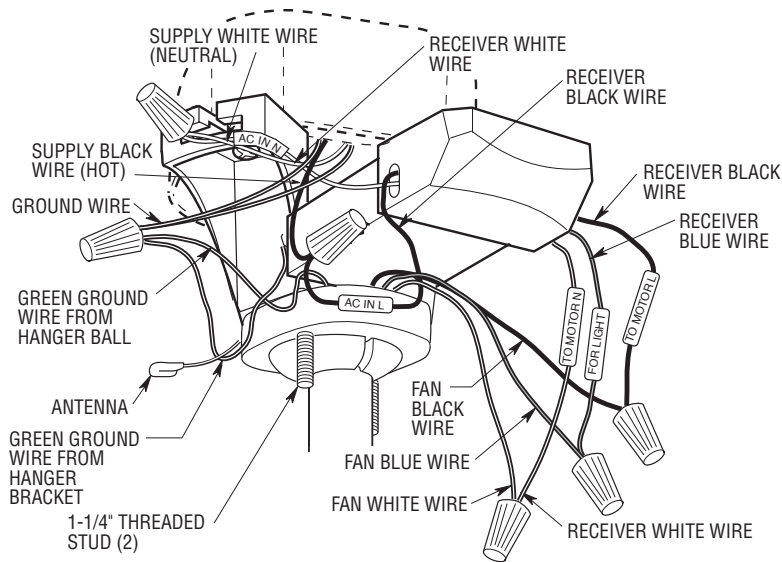

Figure 16
2. Position the supply wires to the left side of the outlet box (Figure 16); position the fan wires to the right side.
3. Partially insert the remote control receiver (flat side up) until one end rests on the hanger ball as shown in Figure 16. Be sure to insert the antenna wire first, making certain that it passes completely through the mounting bracket.
4. Refer to Figure 16 and 17 and connect the receiver wires to the supply wires and the fan motor wires as follows: